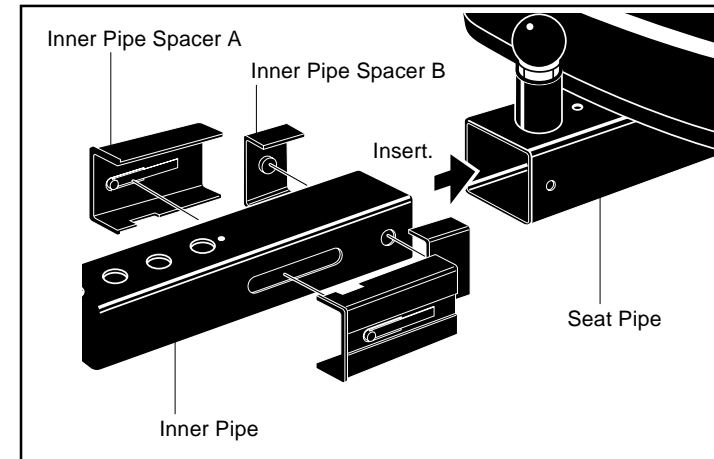

Fig. 4
1. Set a brandnew inner pipe spacer B into the seat pipe. (Fig. 4)